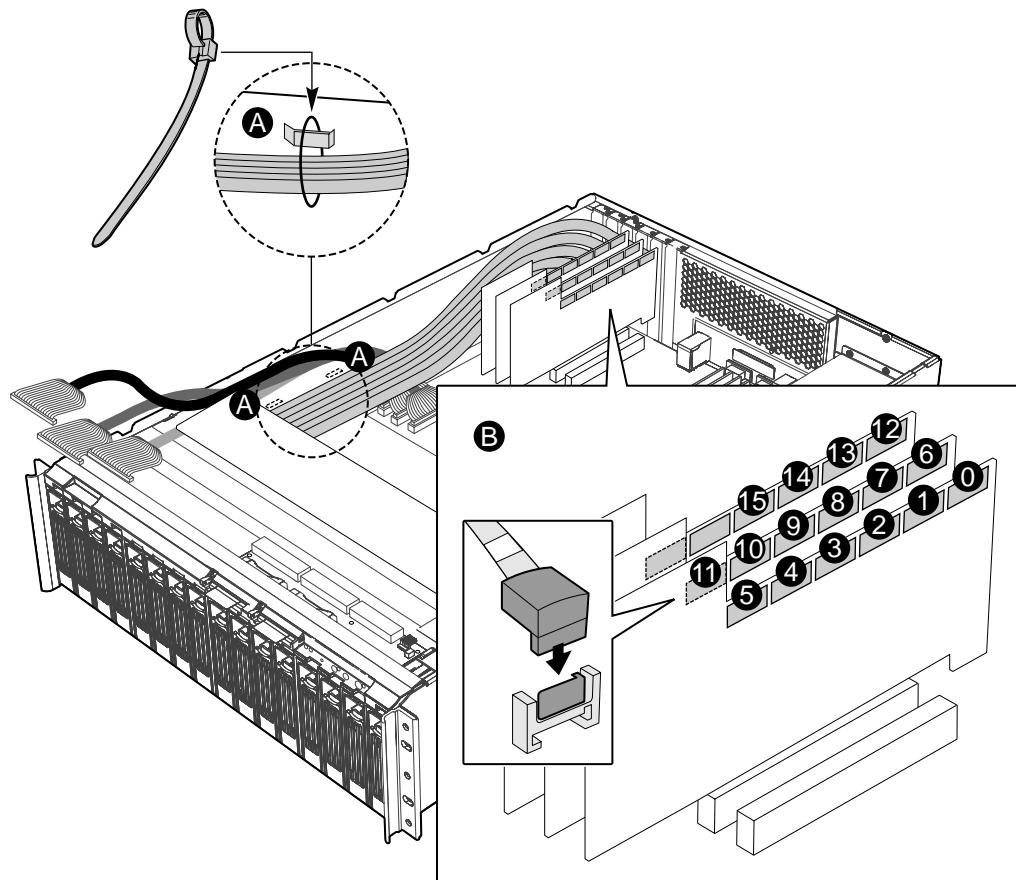

Figure 16. Connecting the SATA Cables to the HBA Cards
- A. Carefully connect the 16 new SATA Cable connectors to the three SATA Host Bus Adapter Cards. Connect the cables to the cards in the original numeric connection order. See Figure 16. Ensure that the SATA Cables are routed to the outside of the Host Bus Adapter Cards. Route the SATA Cables along the side of the chassis in the same way that the original SATA Cables were routed. The cables remain on the chassis side of the Host Bus Adapter Cards and connect to the cards from the chassis side.
- B. Insert new plastic cable ties through the steel links on the side of the chassis where the SATA Cables are normally routed. Bundle the SATA Cables in the same way they were originally bundled and snap the ties tight into place around the cables. Wrap new plastic cable ties around the SATA Cables in the other spots where the original plastic cable ties were cut, and snap the ties tight into place around the the cables. See Figure 16. A total of seven new plastic cable ties should be used.